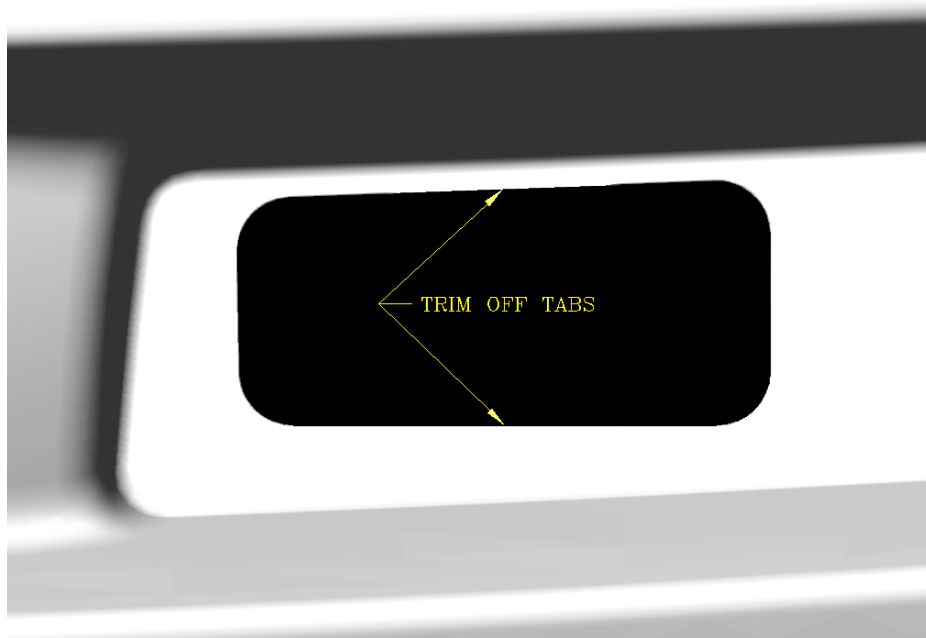
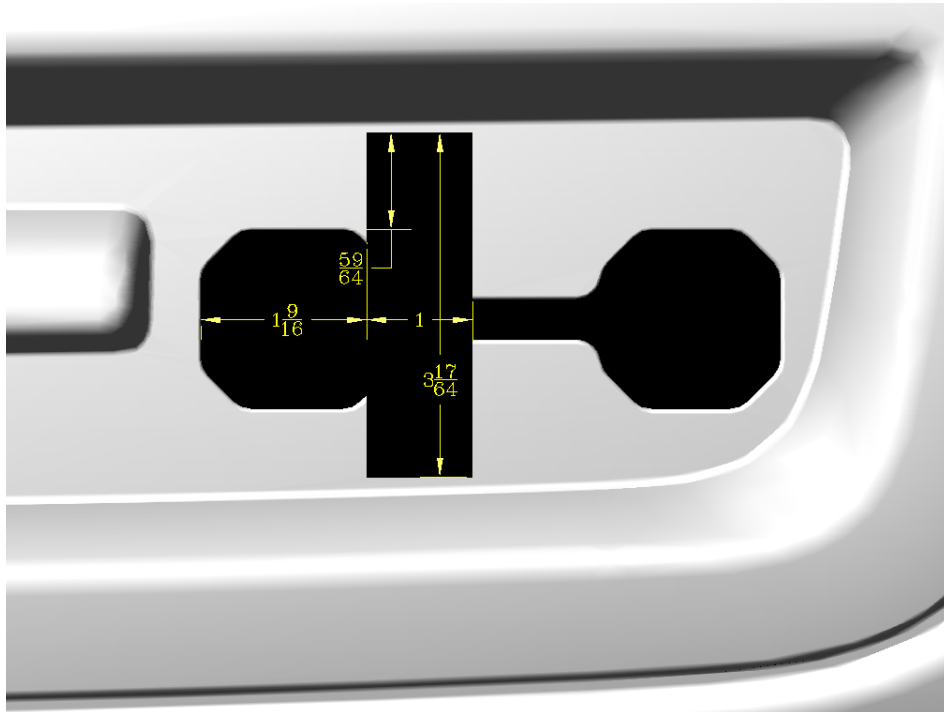

FIG. 3
FIG.4
3. INSTALL THE RIGHT HAND MOUNTING BRACKET (ITEM #4) INTO THE END OF THE FRAME. (NOTE: WHEN INSTALLING THE BRACKETS ON A CHEVROLET, BEND THE PLASTIC TAB IN THE AIR DAM TO THE INSIDE WHILE INSERTING THE BRACKET OR TRIM OFF THE TOP AND BOTTOM TABS EVEN WITH THE OUTSIDE HOLES, WITH A UTILITY KNIFE. SEE FIG. 3 ON PAGE 5. WHEN INSTALLING ON A GMC IT WILL BE NECESSARY TO NOTCH OUT THE PLASTIC WHERE THE BRACKETS COME THROUGH. SEE FIG. 4 ON PAGE 5.) FASTEN WITH THE 1/2"-13 X 1-1/2" BOLTS (ITEM #10), 1/2"-13 X 4-1/2" HEX BOLT (ITEM #9), 1/2" LOCK WASHERS (ITEM #16), 2.00 X .509 X .179 FLAT WASHER (ITEM #19) AND THE 1/2"-13 SERRATED FLANGE NUT (ITEM #13). LEAVE LOOSE AT THIS TIME.
NOTCH THE CHEVROLET LOWER VALANCE WITH A SHARP UTILITY KNIFE TO THE DIMENSIONS SHOWN IN FIG.3
NOTCH THE GMC LOWER VALANCE WITH A SHARP UTILITY KNIFE TO THE DIMENSIONS SHOWN IN FIG.4